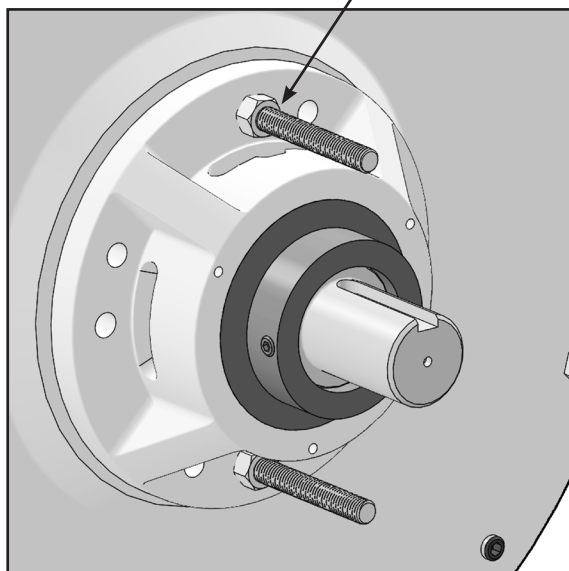

FIGURE 30
25. Using the all thread, tighten each nut in an alternating pattern to prevent binding using a deep socket (Figure 30).